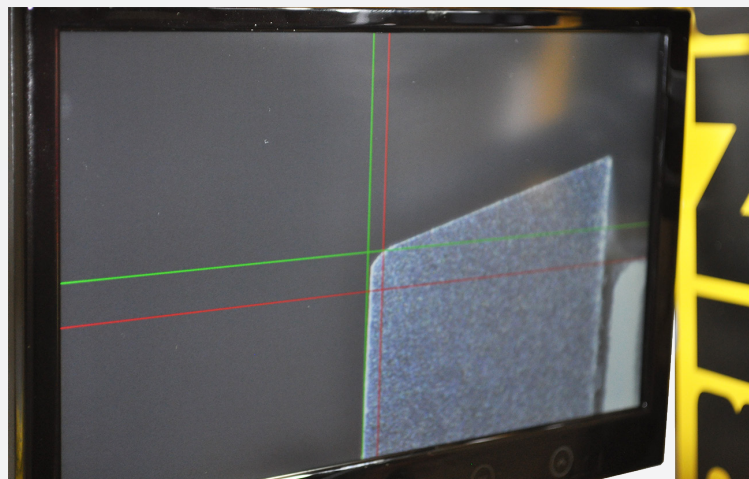

Fig. 16: Check final axial position of cutting edge
3. Check if the cutting edge is placed in required final axial position. The cutting side should be on the intersection of the red vertical line and the green horizontal line (see figure 16).